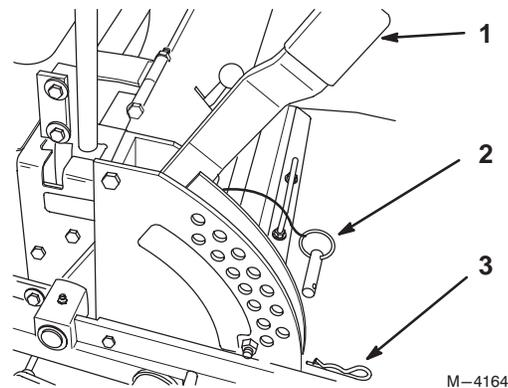

Figure 23
1. Raise the height-of-cut lever to the transport position (also the 5" (127 mm) cutting height position) (Fig. 23).
2. To adjust, remove hairpin cotter and clevis pin from height-of-cut bracket (Fig. 23).
3. Select hole in height-of-cut bracket corresponding to the height-of-cut desired, and insert clevis pin (Fig. 23).
4. Secure clevis pin with hairpin cotter (Fig. 23).